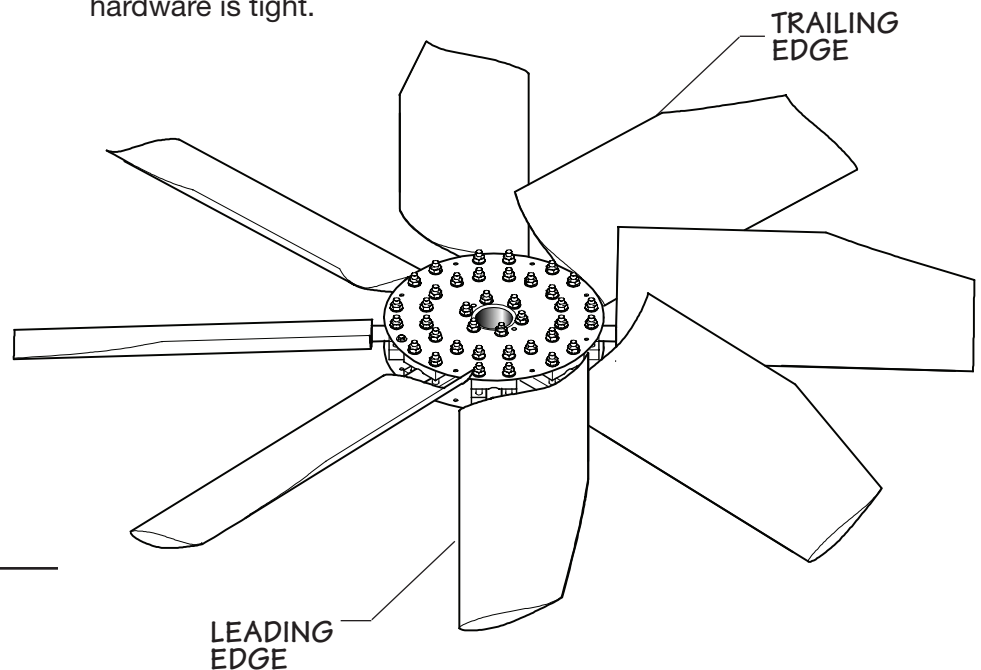

Figure 2
- 6—On fans where the blades overlap at the hub be sure to have the leading edge under the trailing edge of the forward blade. Refer to **Figure 2**.